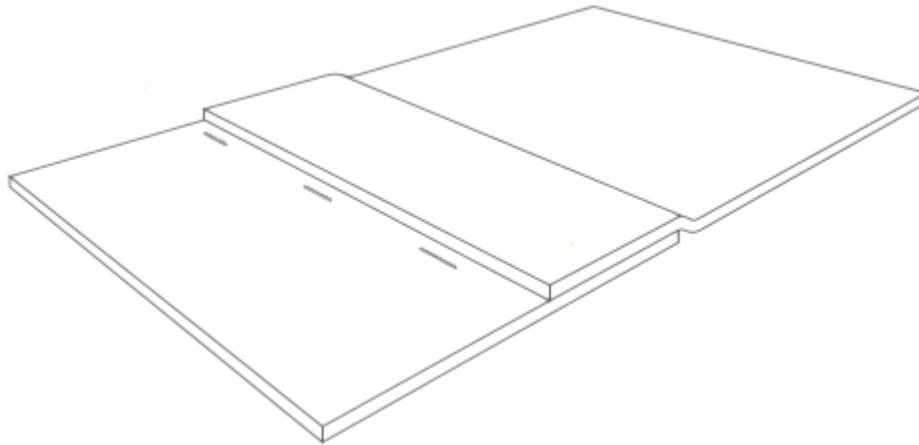

Fig.1
- The mark must be situated at between 10mm and 20mm from the edge of overlapping sheets, and is repeated every 1m of seam length. (See fig.1)